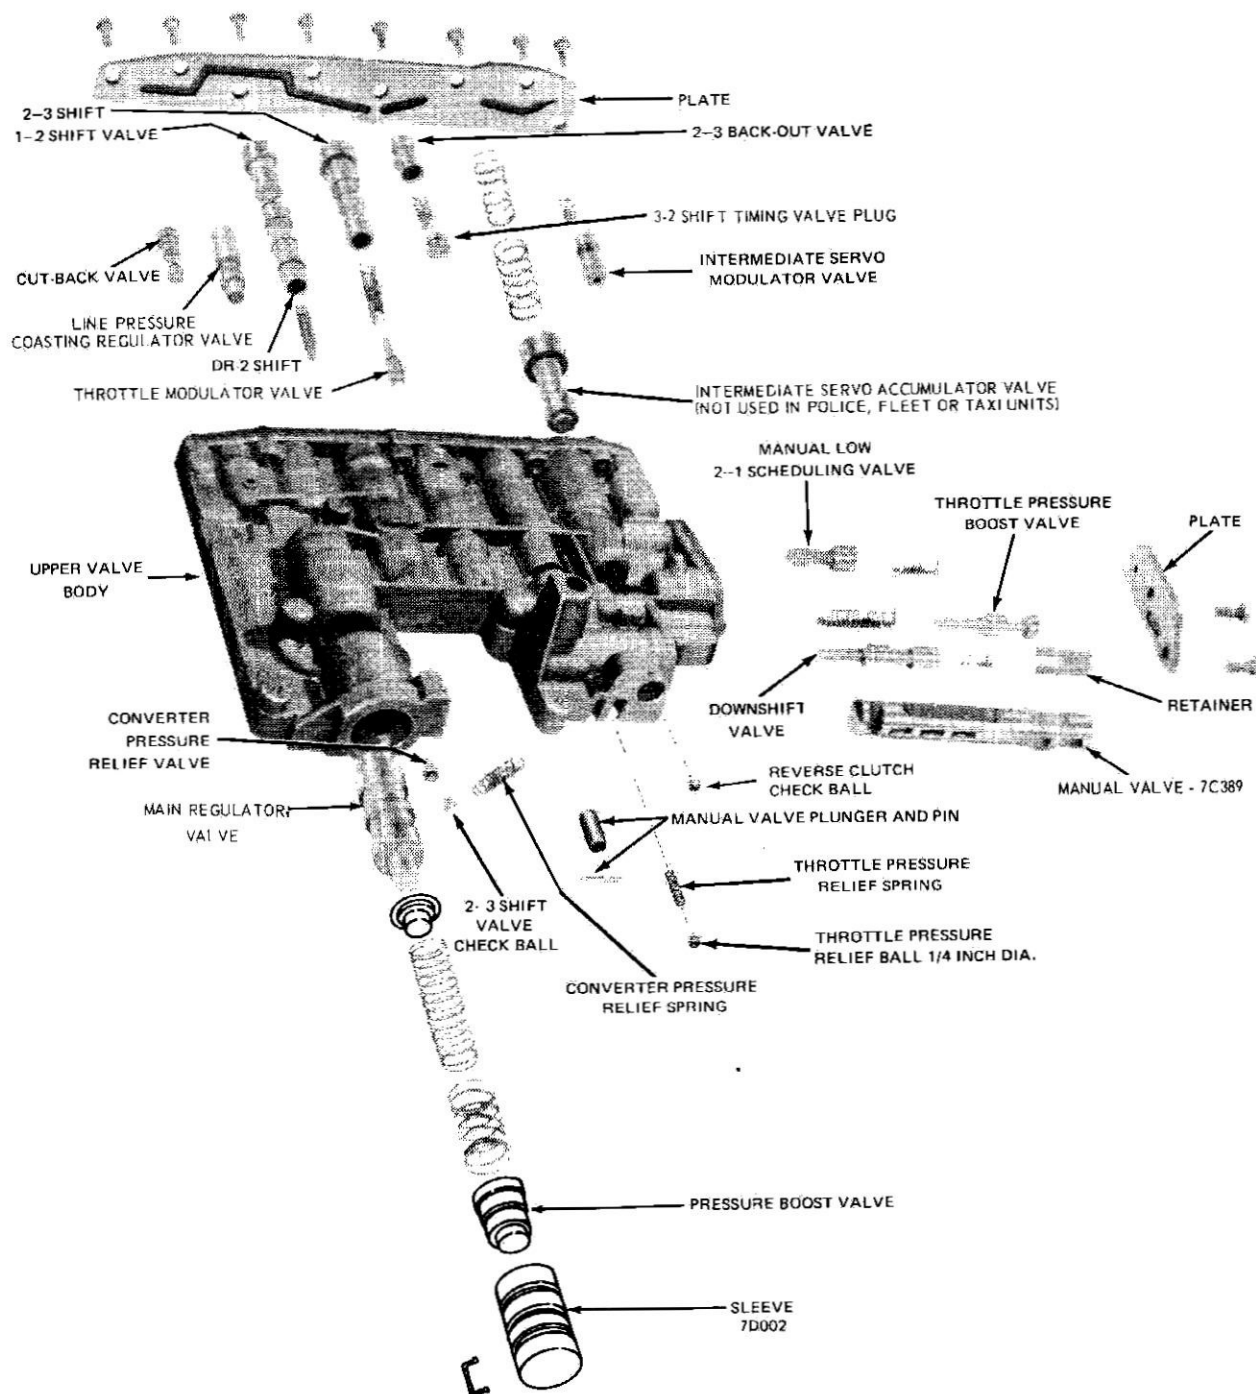

FIG. 22 Upper Valve Body Disassembled
5. Slide the manual valve (Fig. 22) out of the valve body.
6. Cover the downshift valve port with a finger; then, working from the underside of the body, remove the downshift valve retainer. Remove the spring and downshift valve (Fig. 22).
8. Apply pressure on the throttle boost valve retaining plate and remove the two attaching screws. Slowly release the pressure and remove plate, throttle pressure boost valve and spring, and the manual low 2-1 scheduling valve and spring from the body (Fig. 22).
Remove the spring and the intermediate servo modulator valve (Fig. 22) from the valve body.
13. Remove the 2-3 back-out valve, spring, and 3-2 shift timing valve plug. Do not remove the 3-2 shift timing valve plug (Fig. 22) if it is found to be peened, preventing its removal. This condition will not affect transmission operation and is not cause for replacement of the main control.
16. Remove the coasting regulator valve (Fig. 22) from the body.
10. Place the cutback valve (Fig. 22) and coasting regulator valve in the valve body.